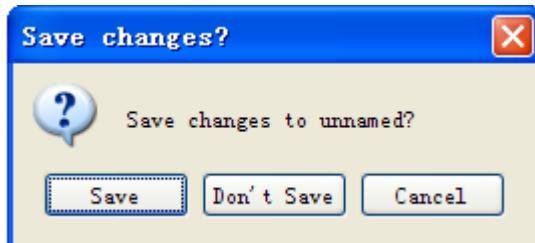
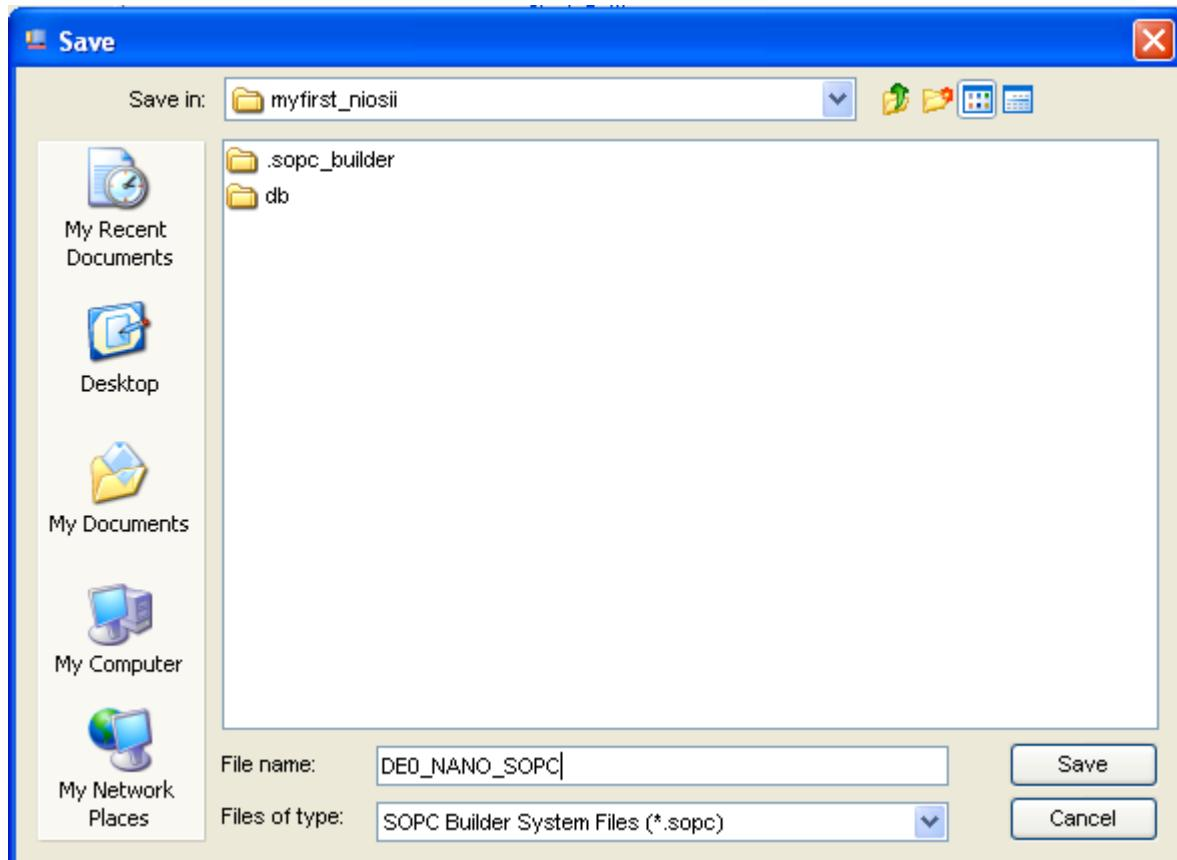
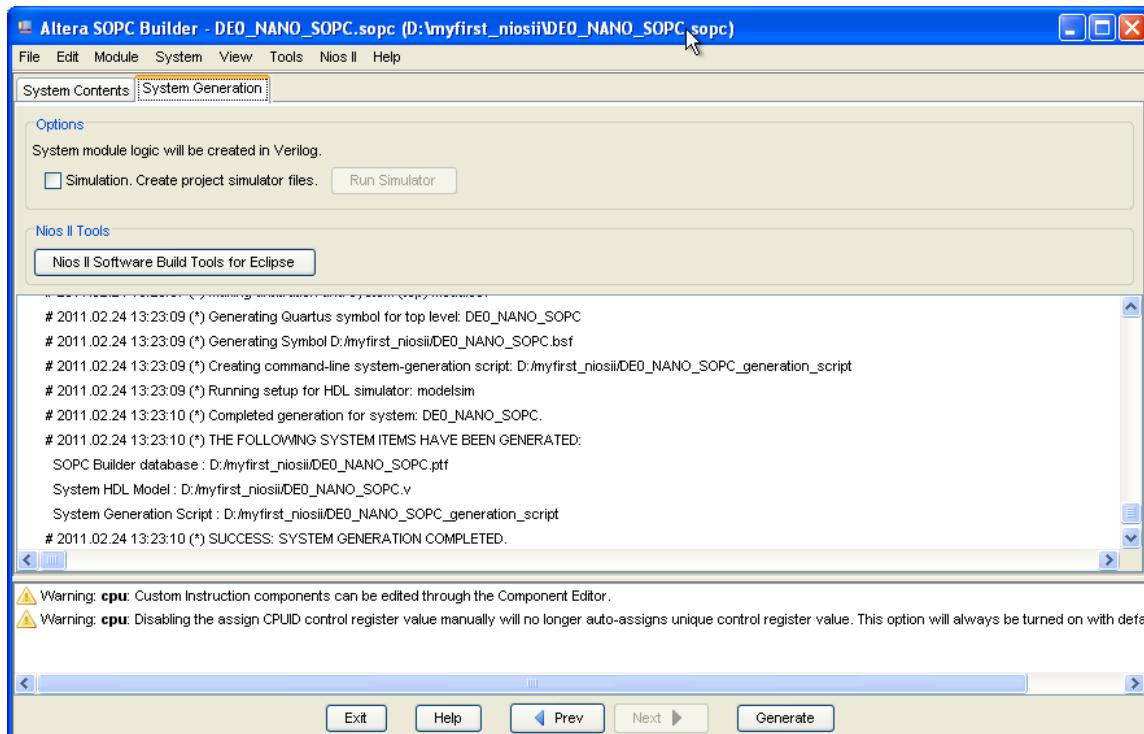

Figure 7-36 Generate SOPC
Figure 7-37 Generate SOPC
Figure 7-38 SOPC Builder generation successful
23. Click the Generate button, which will pop up a window, as shown in **Figure 7-36**. Click Save, which bring up the window in **Figure 7-37**. Input the name, **DE0\_NANO\_SOPC**, and click the save button. The compilation will automatically start. If there are no errors in the generation, the window will show a message of success, as shown in **Figure 7-38**.